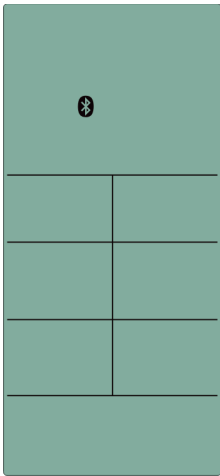

Figure 59
- A. A. If the pairing is successful, will stay lit (Figure 59) and has a Bluetooth heartbeat function.